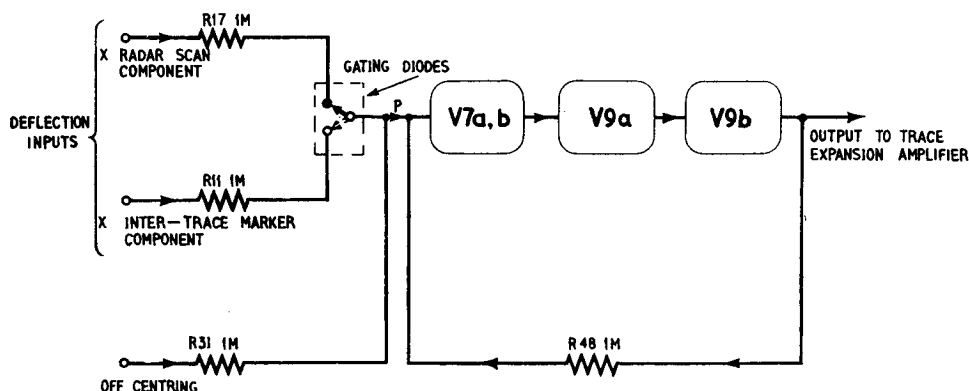

Fig. 7. Block diagram of off-centring amplifier
11. Basically, the off-centring amplifier (*fig. 7*) consists of the two double-triode valves V7 (CV492) and V9 (CV491), and the purpose is to accept the X radar scan component, superimpose the off-centring voltage, and apply the result to the trace expansion amplifier, with an overall gain of unity.
ordinary timebase component to the inter-trace marker component. The gating diodes which do this are shown symbolically as a simple change-over switch in *fig. 7*; their action is explained later in this chapter (*para. 23-26*).
13. The off-centring voltage consists of a steady potential somewhere between plus and minus 41.6V, representing shift of up to 200 nautical miles either way. It is applied from the operator's off-centring control on the control panel Type 859. Once it has been introduced, giving all deflection waveforms a definite DC level, the remaining stages of the amplifier must clearly be DC-coupled throughout. To reduce the danger of DC drift, due to changes in valve characteristics or to other causes, and to maintain linearity, it is necessary to use a high-gain amplifier and then apply heavy negative feedback from output to input. The circuit here adopted is a form of see-saw amplifier, with a 1 M Ω resistor in any one input channel forming the input arm of the see-saw, and another 1 M Ω resistor forming the feedback arm. Since the arms are equal, the gain on any one channel is about unity, subject to small variations for setting-up purposes. The point P (*fig. 7*), which never moves far from earth level, is the "pivot" of the see-saw, and since the gain from P to the output at SWB is high, any hum or other unwanted voltage picked up at P has a particularly serious effect on the display. Special precautions have therefore been taken in the design to avoid such trouble (*para. 46*).